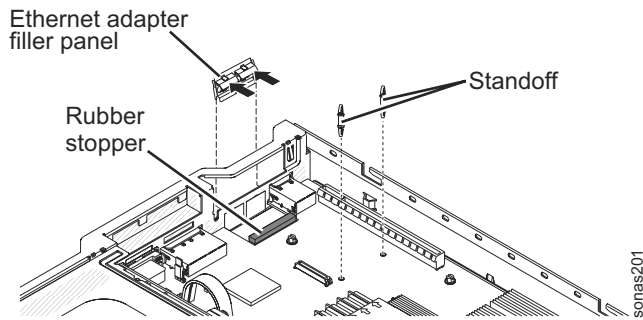

Figure 14. Location of the Ethernet adapter filler panel on the chassis
5. Remove the Ethernet adapter filler panel on the rear of the chassis (if it has not been removed already). See Figure 14 on page 115.